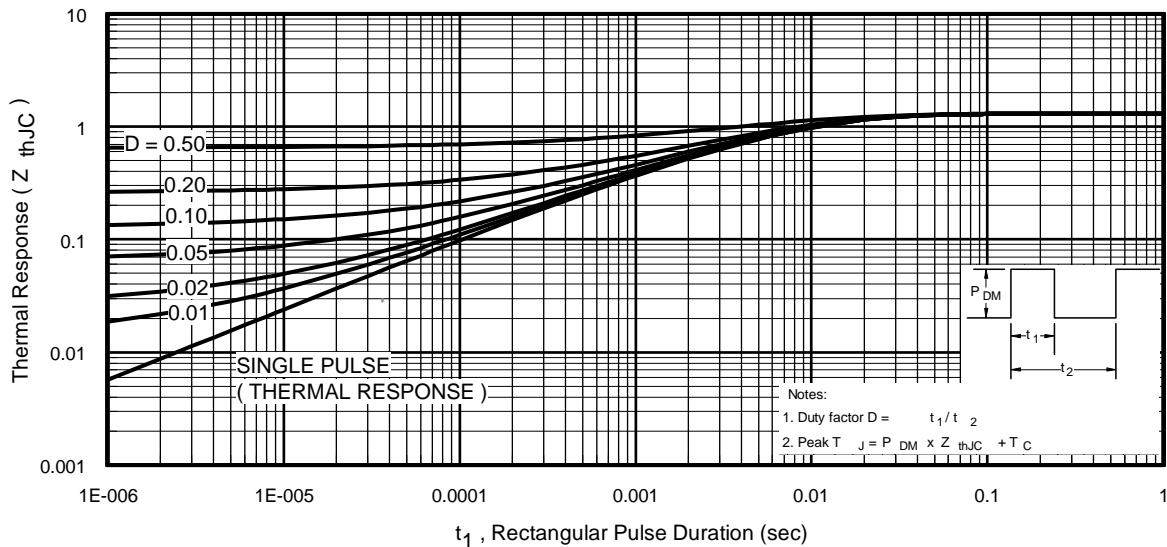
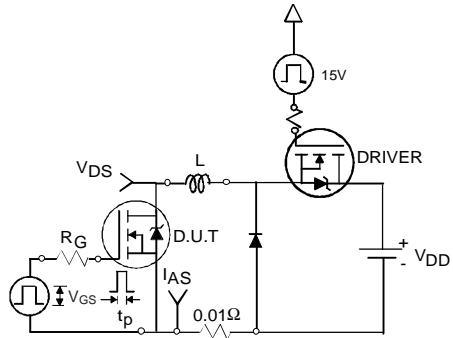

Fig 11. Maximum Effective Transient Thermal Impedance, Junction-to-Case
Fig 12a. Unclamped Inductive Test Circuit
3. Equation below based on circuit and waveforms shown in Figures 12a, 12b.
$Z_{thJC}(D, t_{av})$ = Transient thermal resistance, see figure 11)
- ① Repetitive rating; pulse width limited by max. junction temperature. (See fig. 11).
- ② Limited by $T_{J\max}$, starting $T_J = 25^\circ\text{C}$, $L = 0.71\text{mH}$, $R_G = 25\Omega$, $I_{AS} = 23\text{A}$, $V_{GS} = 10\text{V}$. Part not recommended for use above this value.
- ③ $I_{SD} \leq 23\text{A}$, $di/dt \leq 400\text{A}/\mu\text{s}$, $V_{DD} \leq V_{(BR)DSS}$, $T_J \leq 175^\circ\text{C}$.
- ④ Pulse width $\leq 1.0\text{ms}$; duty cycle $\leq 2\%$.
- ⑤ $C_{oss\ eff}$ is a fixed capacitance that gives the same charging time as C_{oss} while V_{DS} is rising from 0 to 80% V_{DSS} .
- ⑥ Limited by $T_{J\max}$, see Fig.12a, 12b, 15, 16 for typical repetitive avalanche performance.
- ⑦ This value determined from sample failure population. 100% tested to this value in production.
- ⑧ When mounted on 1" square PCB (FR-4 or G-10 Material). For recommended footprint and soldering techniques refer to application note #AN-994.